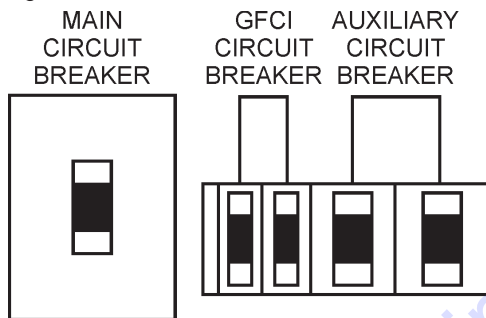

Figure 36. Main, Aux. and GFCI Circuit Breakers
1. Be sure and place the **main, G.F.C.I.** and **aux.** circuit breakers (Figure 36) in the **OFF** position prior to starting the engine.